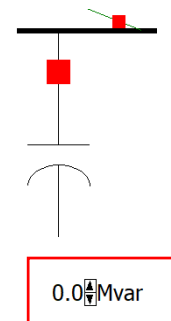

Figure 9- Switched Shunt Field Options Editor Window
- 7) Now, double click on the Capacitor value, i.e. on the label that indicates 0.0 MVar, and set the *Delta per Mouse Click* value to 10. This allows you to change the value of the Capacitor by the defined steps during the Run Mode. (We are creating an adjustable capacitor bank for this simulation) If this step is performed correctly, you will see two arrows (up/down) next to the capacitor value. Your window should look similar to Figure 9.